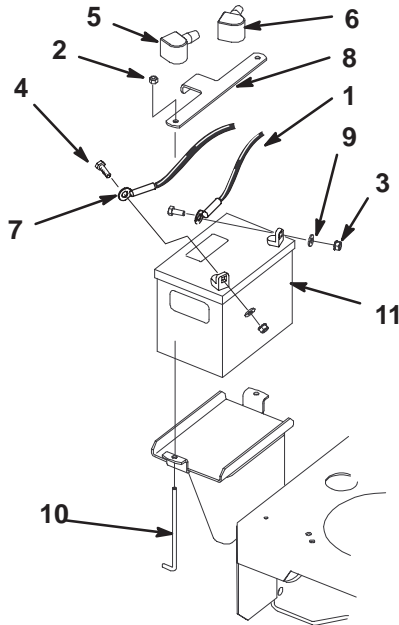

Figure 49
3. Lift the black rubber cover up on the negative cable. Disconnect the negative (black) ground cable from the battery post (Fig. 49).
4. Lift the red rubber cover up on the positive cable. Disconnect the positive cable (red cover) from the battery post (Fig. 49).
- Remove the battery hold down plate (Fig. 49).
- Place the battery into the machine (Fig. 49).
- Secure battery with hold down plate, nuts and battery hold down (Fig. 49).
- Using the bolt and nut, connect the positive (red cover) cable to the positive (+) battery post (Fig. 49). Slide the rubber cover over the battery post.
- Using the bolt and nut, connect the negative (black) cable to the negative (-) battery post (Fig. 49). Slide the rubber cover over the battery post.